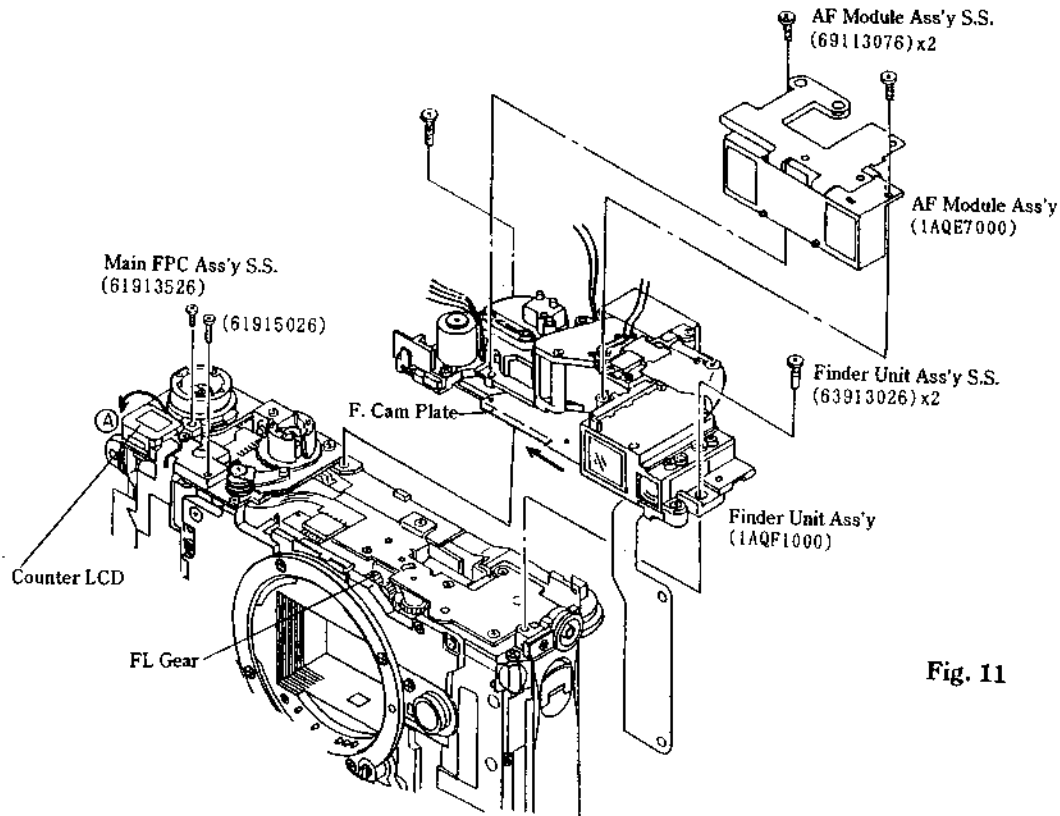

Fig. 11
- 14) Remove the AF Module Ass'y Setscrews (69113076)×2 and take off the AF Module Ass'y (1AQE7000). (See Fig. 11)
- 15) Remove the Finder Unit Ass'y Setscrews (63913526)×2 and take off the Finder Unit Ass'y (1AQF1000). (See Fig. 11).
- With the F. Cam Plate moved fully in the direction of the arrow (Wide side), install the Finder Unit Ass'y on the Body. (See Fig. 11)
(Top of Body) (See Fig. 11)